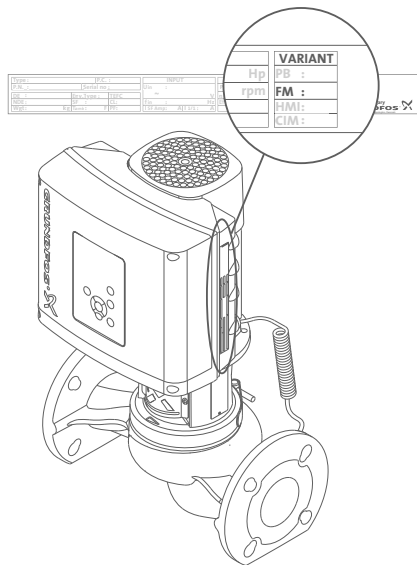

Fig. 20 Identification of functional module
The number of terminals depends on the functional module (FM). You can identify the fitted module on the motor nameplate. See fig. 20.